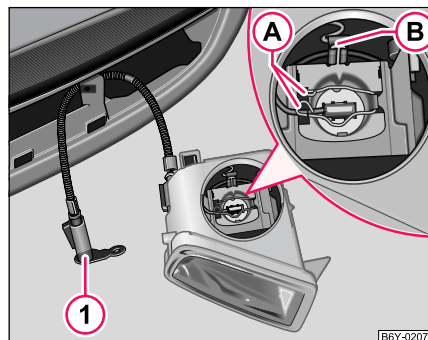

Fig. 160 Structure of the light bulb of the fog light
- Disconnect plug connector ② ⇒ fig. 160.
- Press together the sprung wire clamp ③ on the lamp holder and swing down.
- Close the sprung wire clamp (A) over the lamp plate. Press together the sprung wire clamp and lock together again.
- Plug into the plug connector (B).